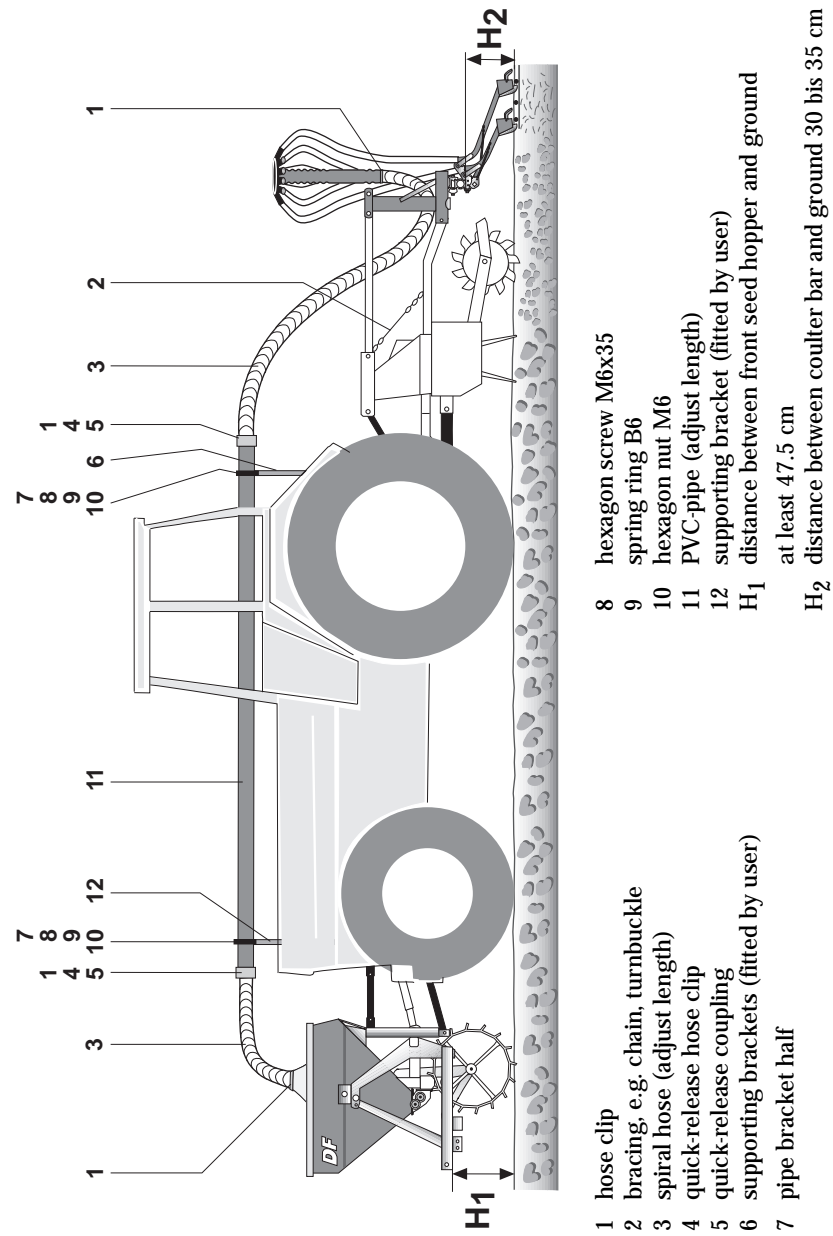

Fig. 10-1 The DF1 seed drill
3. With the coupling bracket exactly vertical, set the ground clearance H_1 (see fig. 10-1) to at least 47.5 cm. This ground clearance must be maintained at all times, for example by a chain which limits the downward movement of the front power lift.
2. The coulters must be supported by the tractor or tillage equipment at a height H_2 of 30 to 35 cm above the ground (see Fig. 10-1).
1. Fit supporting brackets of your own choice to the tractor (see fig. 10-1).
The butterfly valves on the DF seed drills must remain open, even when sowing fine seed (DF1: position N, DF2: position 5 or "open") if the overall length of the spiral hoses and PVC pipe (items 3 and 11 in fig. 10-1) exceeds 5 metres. Otherwise close the butterfly valve when sowing fine seed.